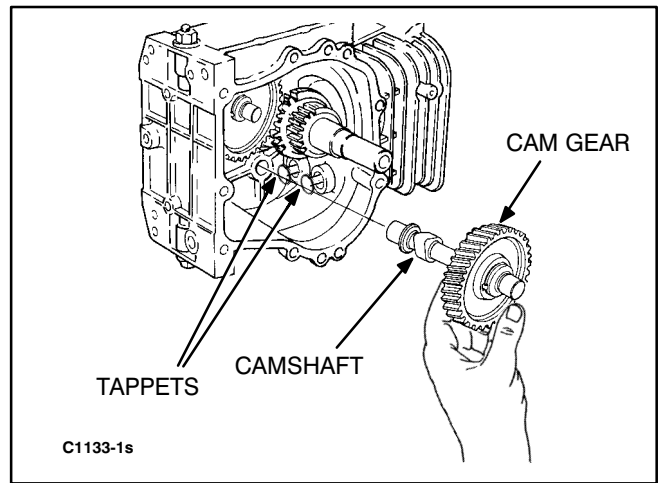

FIGURE 10-15. CAMSHAFT AND TAPPETS
1. Place the engine cylinder down on a clean flat surface (Figure 10-15).